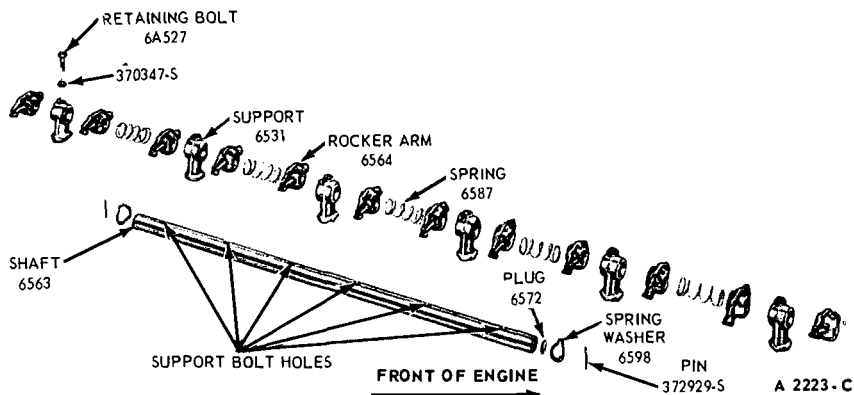

FIG. 21—Valve Rocker Arm Shaft Assembly
4. Install the valve rocker arms, supports, and springs in the order shown in Fig. 21. **Be sure the oil holes in the shaft are facing downward. Complete the assembly by installing the remaining spring washer and pin.**